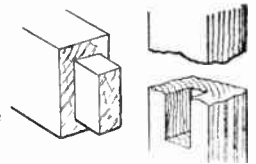
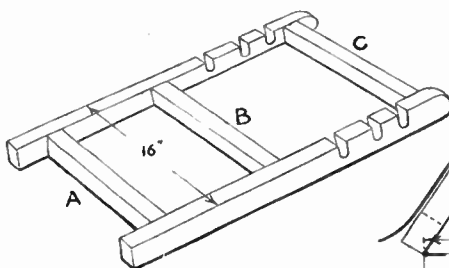
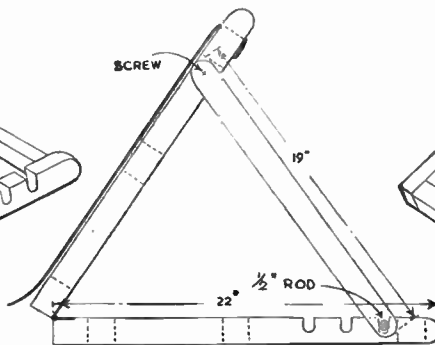

Fig. 4—The tenon joint
Fig. 2—The frame on the ground
Fig. 3—Side view showing adjustable back and slots
The serviceable wood to use would be American Whitewood, beech or birch, all both close grained and hard of surface. The ground frame can first be taken in hand, and the detail Fig. 2 gives a good idea as to its form and construction. The side view, Fig. 3, of the Rest shows this frame in position with the back rest and support frame in place.
The method of making the stub tenon is shown in Fig. 4, the ends of the cross rails being shouldered and with the tenon running half way through the long rails. The cross rail (A) in Fig. 2 should stand 2ins. in from the ends of the long rails, while rail (B) should be 6ins. from (A). The end rail (C) should be at least 1in. away from the rounded ends of the side rails.
Recesses into which the round rod of the support frame must rest, are made as shown in Fig. 3. Each recess is $\frac{1}{2}$ in. deep with rounded end and should be
The back frame to which the canvas covering is later attached, is shown in Fig. 4. This frame is exactly the same width as the ground frame, viz., 16ins. full width with a space of 13ins. in between rails. Note the positions of the three cross rails in this frame. The middle rail is $9\frac{1}{2}$ ins. up from the square ends of the side rails. The cross rails are 2ins. by $1\frac{1}{2}$ ins. in section, while the side rails are $1\frac{1}{2}$ ins. square, and all stub tenoned and mortised together just like the ground frame. Take off all sharp edges and corners of all the rails with glasspaper.
Both frames having been completed, the next job is to hinge them together. A pair of $1\frac{1}{2}$ in. brass hinges should be strongly attached to both frames in the manner shown in the side view Fig. 3. The flaps of the hinges are cut in or recessed so they lie flush with the surface of the rails.